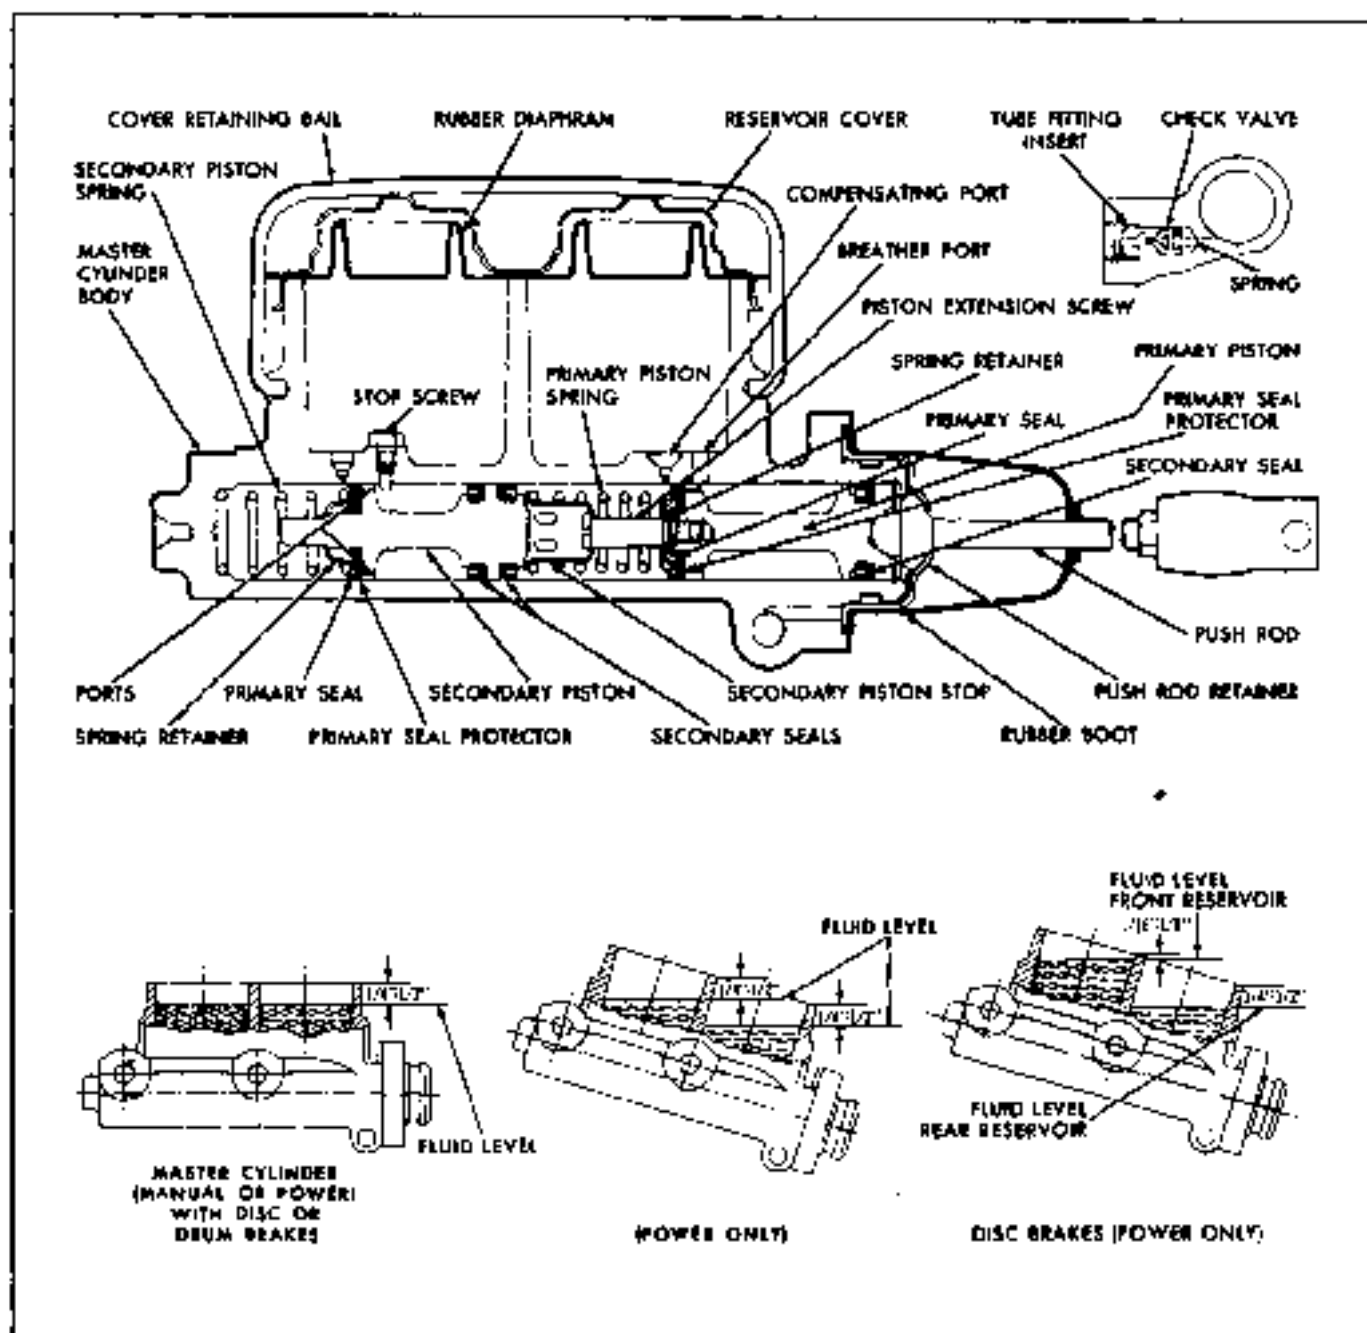

Fig. 5-4 Fluid levels and Master Cylinder Details
5. Check fluid level in master cylinder. The level should be within 1/4 inch from top of reservoir (Fig. 5-4).
16. Check fluid level in master cylinder as shown in Fig. 5-4.
The dual master cylinder is designed and built to satisfy individual brake system displacement requirements (Fig. 5-4). Therefore, it is necessary that the following basic rules be used when replacing either a complete master cylinder or parts.